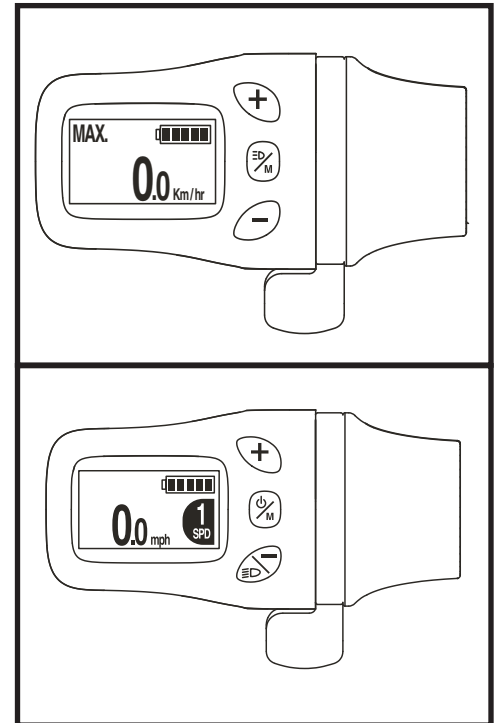

Figure 17. Battery Condition Meter
The battery condition meter on the throttle console indicates the approximate strength of your battery using a battery icon. At full charge, the icon will display five (5) bars indicating a fully charged battery. With continued use, the bars will begin to disappear as your charge drains. Once the icon is down to displaying only one bar, an immediate recharge is necessary. See figure 17. To ensure the highest accuracy, the battery condition meter should be checked while operating your scooter at full speed on a dry, level surface.